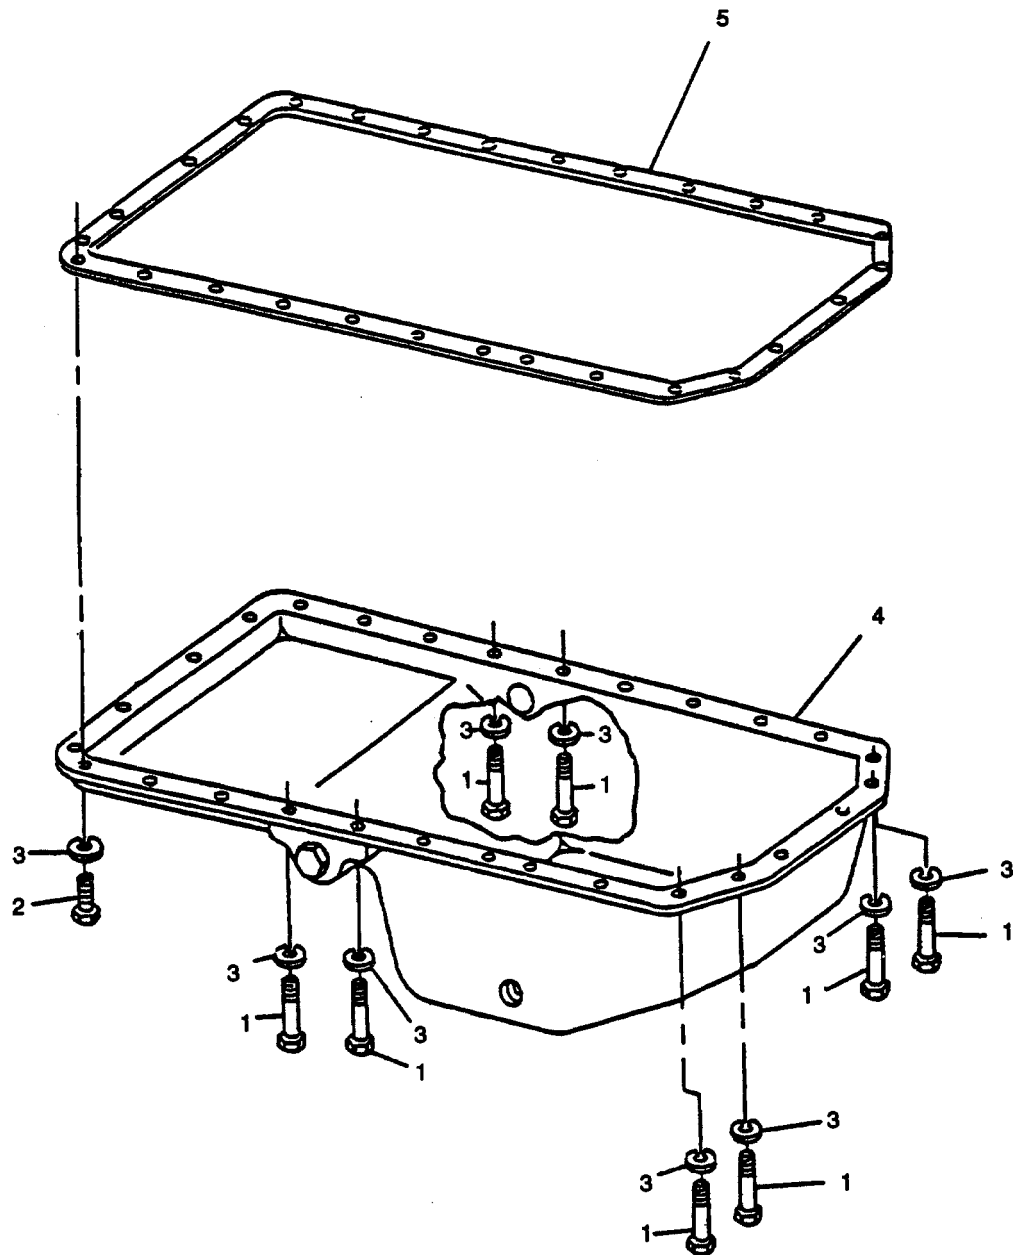

FIGURE 3-34. Oil Pan
- b. Support oil pan and remove eight bolts (1, FIGURE 3-34), twenty bolts (2), and twenty-eight lockwashers (3), securing oil pan (4) to engine block. Remove oil pan (4) and gasket (5); discard gasket (5).
- b. Place a new gasket (5, FIGURE 3-34) and oil pan (4) on engine block and secure with eight bolts (1), twenty bolts (2), and twenty-eight new lockwashers (3). Install the eight longer bolts (1) in locations noted during removal.
- a. Remove four bolts (1, FIGURE 3-34), two capscrews (2), and six lockwashers (3) from front of oil pan.
- c. Install four bolts (1, FIGURE 3-34), two capscrews (2), and six new lockwashers (3) in front oil pan. Tighten oil pan-to-timing cover capscrews to 27 ft-lbs (37 Nm). Tighten others to 35 ft-lbs (47 Nm).